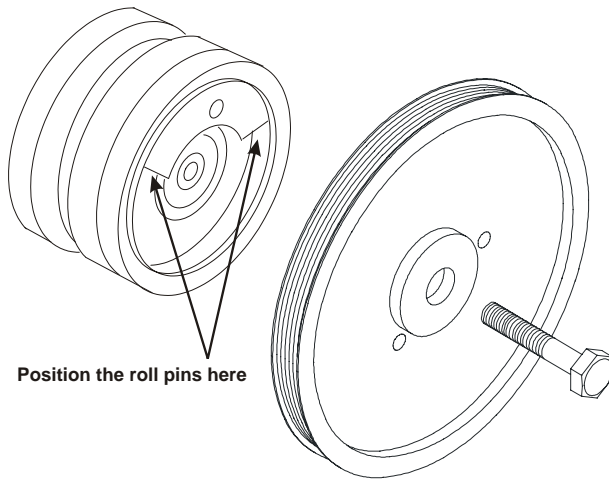

Figure 2.2
- Place the VR crank pulley in position with the two roll pins on both sides of the counter balance weight of the OEM pulley (Figure 2.2).